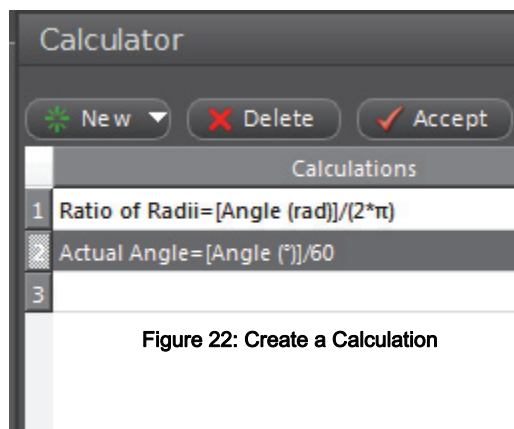

Figure 22: Create a Calculation
- Use the Calculator in the program to create a calculation of the actual angular position of the Degree Plate. If the small post on the top of the Pinion is in contact with the edge of the Degree Plate, the Angular Position of the Rotary Motion Sensor must be divided by the ratio of the radius of the Degree Plate and the radius of the small post on the Pinion\*. The ratio is approximately 60 to 1. If the Ratio of Radii you determined was not 60, use the value you found. If the larger diameter section at the bottom of the Pinion is used, the Angular Position of the Rotary Motion Sensor must be divided by 15\* (see Fig. 22 for an example from Capstone).